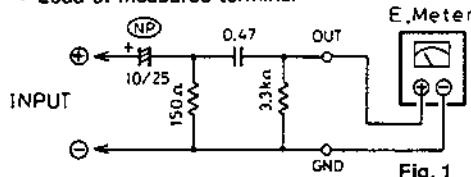

Fig. 1
3. Attach top cover when measuring and connect filter shown below Fig. 1 to V. meter.